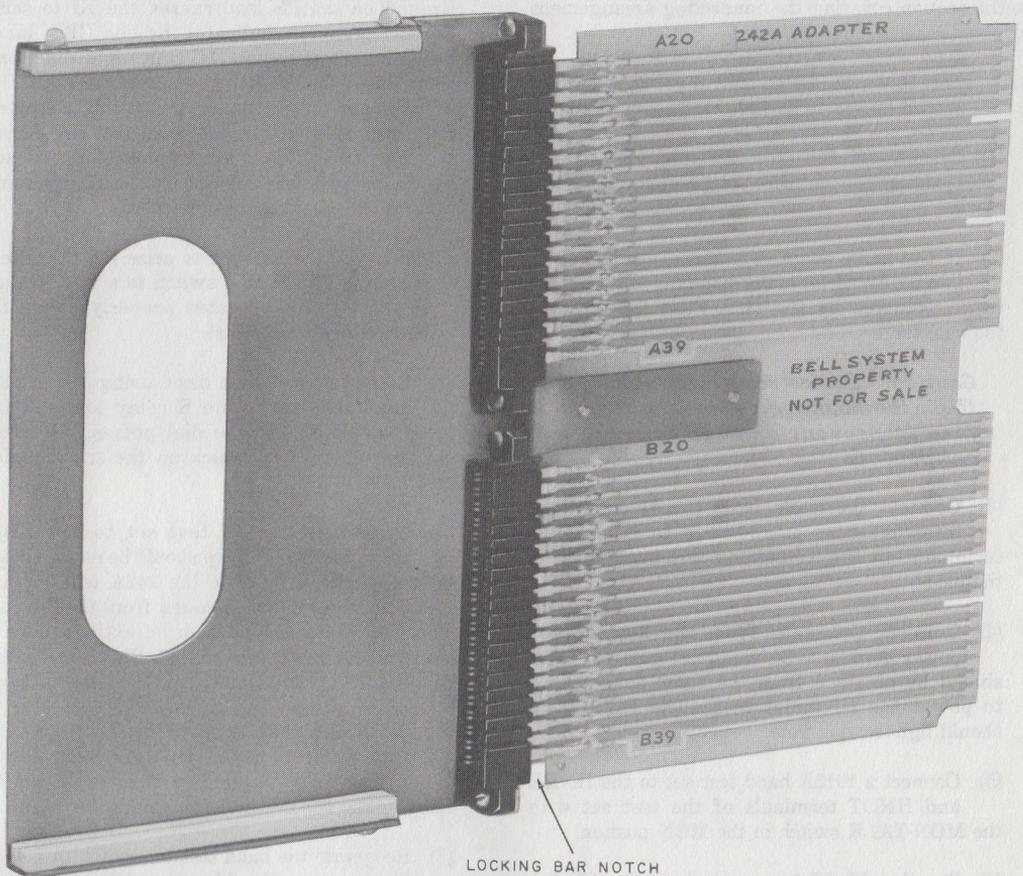

Fig. 2—242A Adapter
2.02 The 242A adapter (Fig. 2) is intended to be used as a testing aid in conjunction with the 142A test set but can be used in any situation requiring access to an IU for observation of relay operation, point-to-point testing, etc, while the unit is mounted in a panel or apparatus mounting.